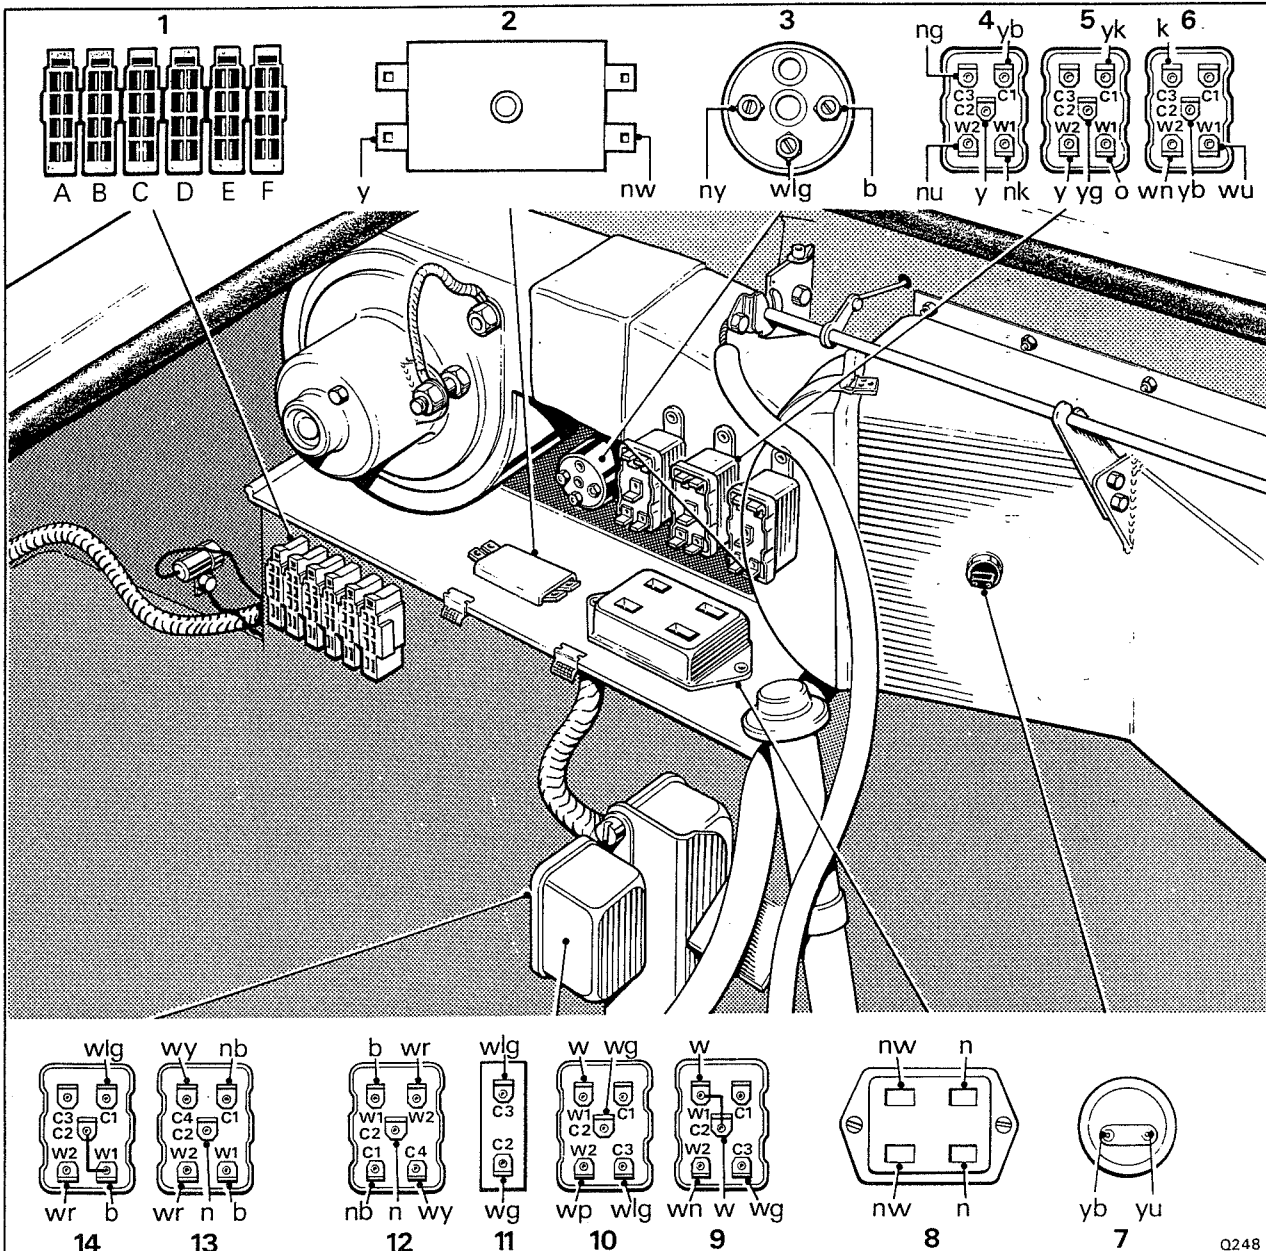

Fig. H2 Electrical disconnection points for engine and sub-frame removal
22. Disconnect the relevant electrical connectors (see Fig. H2).